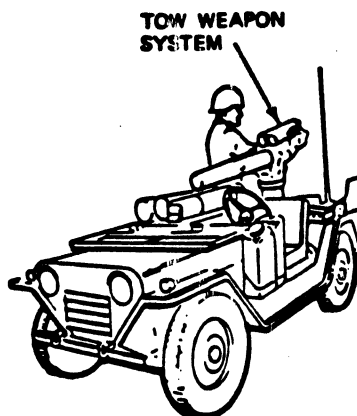

Fig 4-13. Correct position behind jeep launcher.
Step 1. Stand on the right side of the vehicle next to the TOW 2 weapon system (fig 4-13).